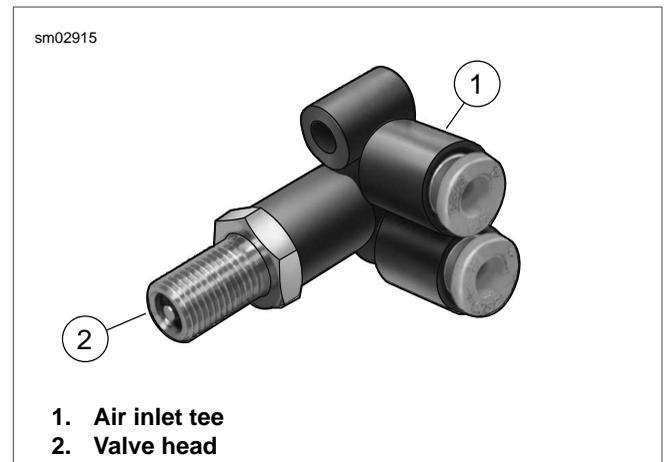

Figure 2-73. Air Valve Assembly
- h. Push on valve head to free air valve assembly from mounting bracket. See Figure 2-73.